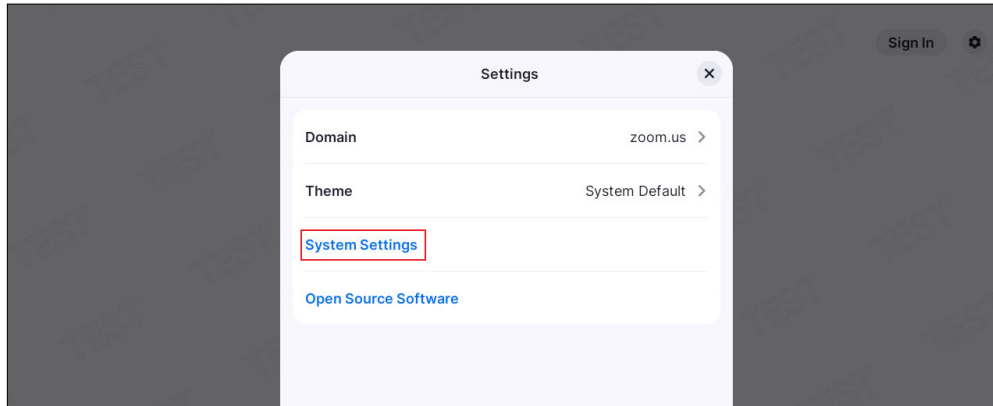

Figure 8. Settings Menu
Click **System Settings** (see figure 8, ❶).